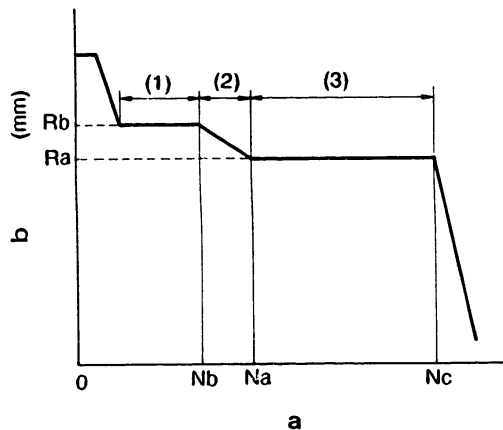
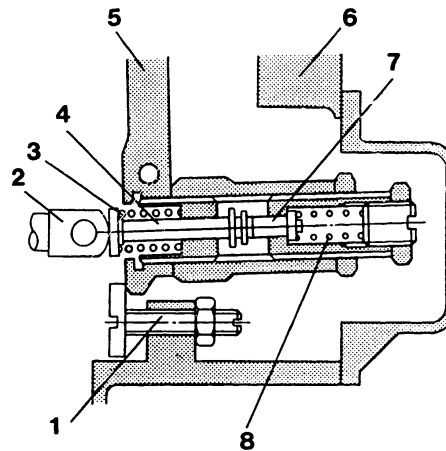

Fig. 32
Fig. 33
If the pump speed is Nb with the speed control lever held at the maximum speed stopper position and the load control lever held at the full load position, the centrifugal force generated by the flyweight becomes less than the set force of the torque control spring, and therefore the shifter cannot compress the torque control spring (refer to Fig. 32 (1), Fig. 33).
This motion continues until the shifter contacts the tension lever, and is called the torque control stroke (refer to Fig. 32 (2), Fig. 34).
After the shifter directly contacts the tension lever, the set force of the governor spring is greater than the centrifugal force generated by the flyweight; therefore, the tension lever cannot be moved (refer to Fig. 32 (3)).